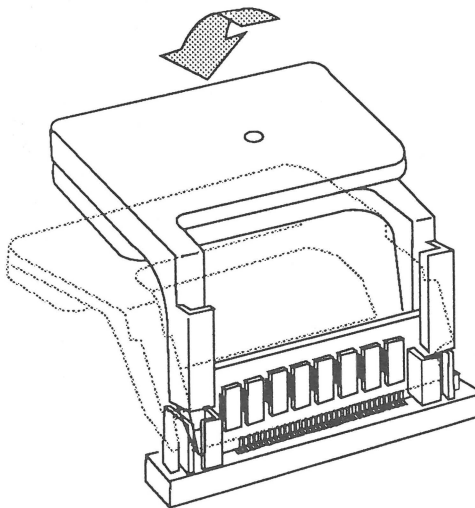

FIGURE 3
3. Once the tool is on the SIMM board, gently rotate the tool backward (Figure 3) until the board becomes loose.